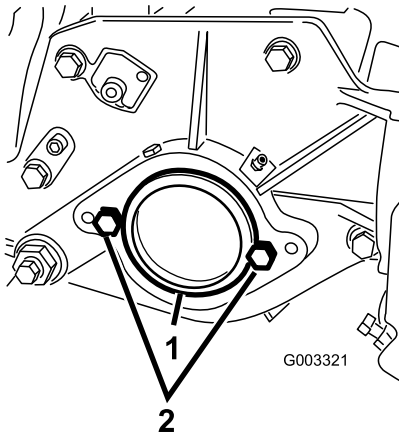

Figure 7
3. On right end of cutting unit, remove the plastic plug from the bearing housing (Figure 7).
4. Remove the 2 bolts from the right side plate (Figure 7).
2. Bolts (2)
6. Loosely install the 2 reel motor mounting bolts to the left side plate of the cutting unit (Figure 7).